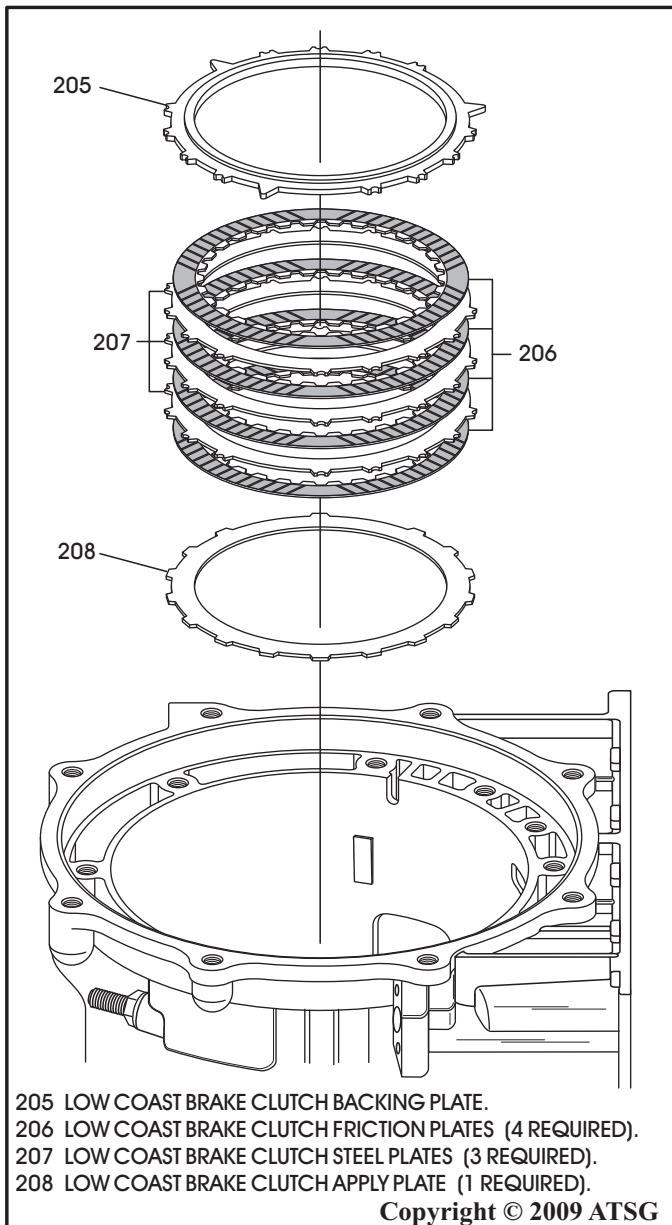

Figure 185
3. Install the low coast clutch apply plate into the forward brake clutch piston (See Figure 185).
4. Install the low coast clutch plates beginning with a friction plate against the apply plate and alternating with steel plates, as shown in Figure 185.
6. The low coast clutch requires one apply plate, three steel plates, and four friction plates, as shown in Figure 185.
7. Install the low coast clutch backing plate, as shown in Figure 185.